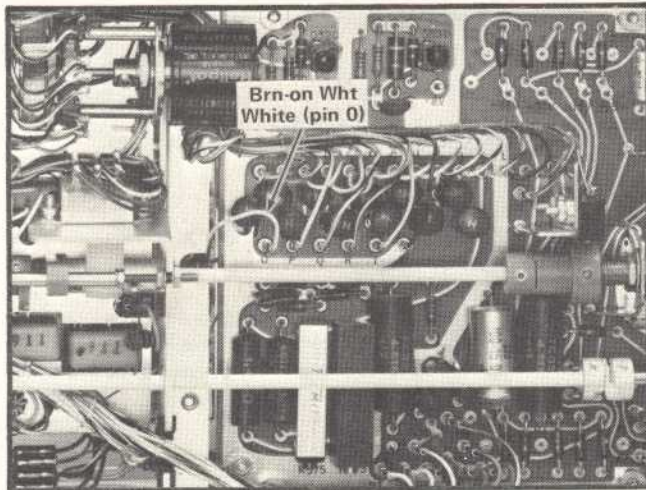

Fig. 5-9. Partial view of Output board showing the Vc input wire and the Vc output pin connector location.
e. Disconnect the Type 7A13 brown-on-white wire from pin connector "0" located on the Output board (see Fig. 5-9). This wire disconnects the V_c supply located on the Output board from the V_c input circuit on the Attenuator board but does not disconnect the V_c supply from the V_c OUT 0-10 V jack.